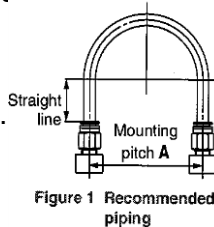

Figure 1 Recommended piping
- (1) When connecting piping to the One-touch fitting, use a pipe length with sufficient margin, in accordance with the piping conditions shown in Figure 1.**